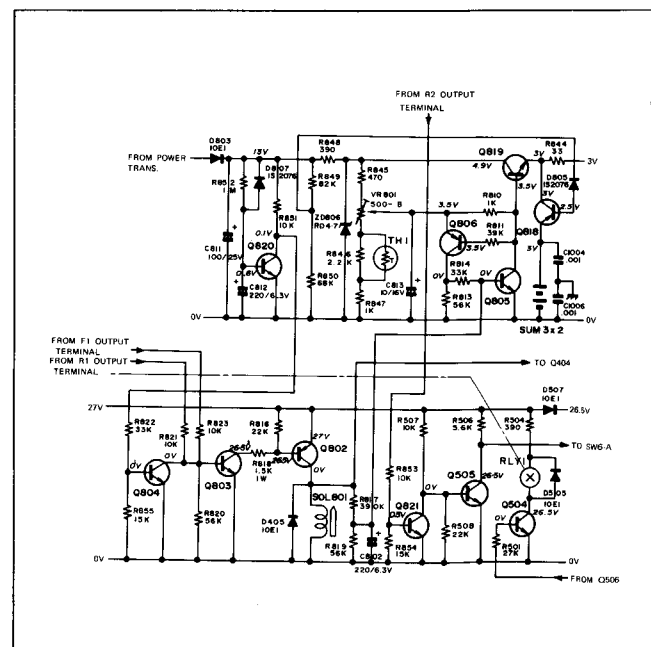

Figure 28
■ OUTPUT PROTECTOR CIRCUIT (See Figure 28)